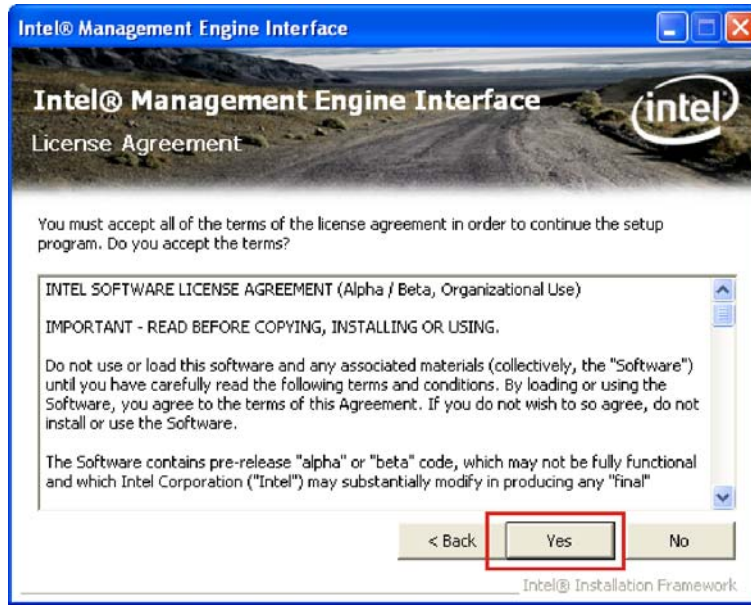

Figure 7-35: AMT HECI License Agreement
Step 6: The License Agreement appears (**Figure 7-35**).